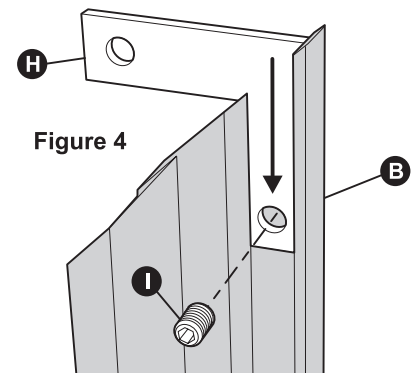

Figure 4
- Attach brackets (H) to the angled end of each side trim (B and C). Gently secure brackets to side trim by tightening set screws (I), only until snug to avoid dimpling the extrusion face. See Figure 4.